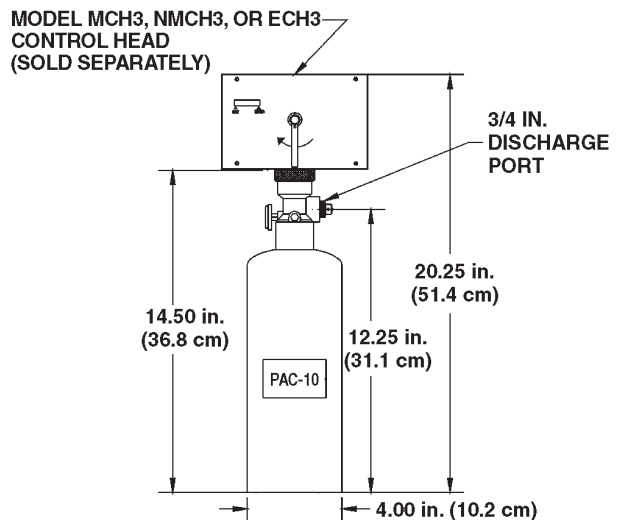

FIGURE10
The Model PAC-10 is a pneumatic actuating tank that can actuate a maximum of ten (10) agent tanks simultaneously. The Model PAC-10 includes a DOT 4BA350 tank pressurized with dry nitrogen to 350 psi (24.1 bar) @ 70 °F (21.1 °C), a brass valve with pressure gauge, and a wall mounting bracket. A Model MCH3, NMCH3 or ECH3 control head must be purchased separately and connected to the PAC-10 to open the valve. See Figure 10.